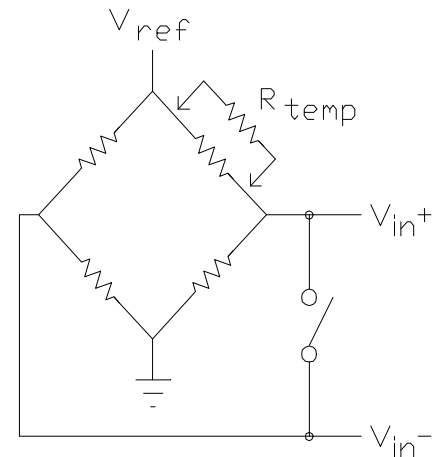

Figure 4-11. Sensor Bridge Circuit
A second method of measuring the actual DC gain is by using the sensor bridge offset as the input voltage (Figure 4-11). Install the sensor, the bias resistor, and the gain resistor in the amplifier circuit. Arm and trigger (Trigger 1) the recorder to turn on the analog section. Measure and record the voltage (V) between Vin+ and Vin-. Measure and record the analog output voltage (V_{out1}) of the recorder. V_{out1} should be near V_{ref}. If V_{out1} is too low, an external resistor (R_{temp} on Figure 4-11) may be necessary to increase the bridge unbalance during the measurement. Next, short the Vin+ input to the Vin- input. Measure and record the analog output voltage (V_{out2}) of the recorder. The gain of the amplifier can be calculated using Equation (4-5).